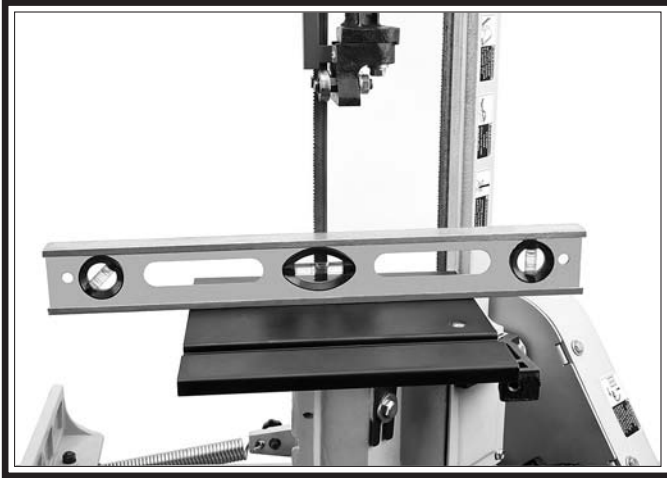
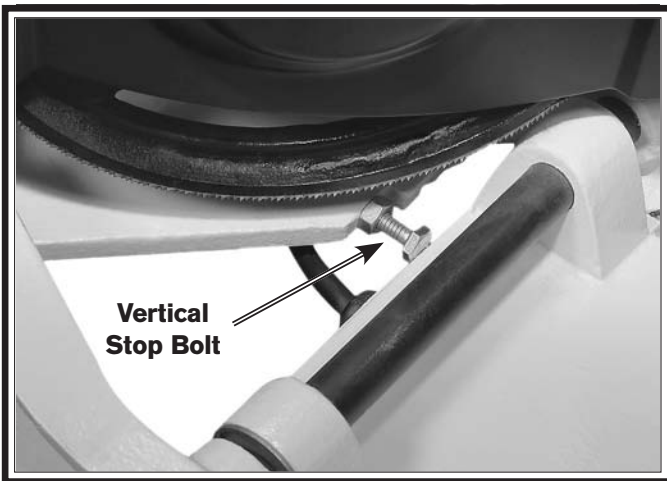

Figure 44. Leveling vertical setup.
Figure 45. Vertical stop bolt (blade cover removed for clarity).
7. Place a level on the table, as shown in **Figure 44**, then use the vertical stop bolt shown in **Figure 45** along with the slotted table mount bracket to level the table.